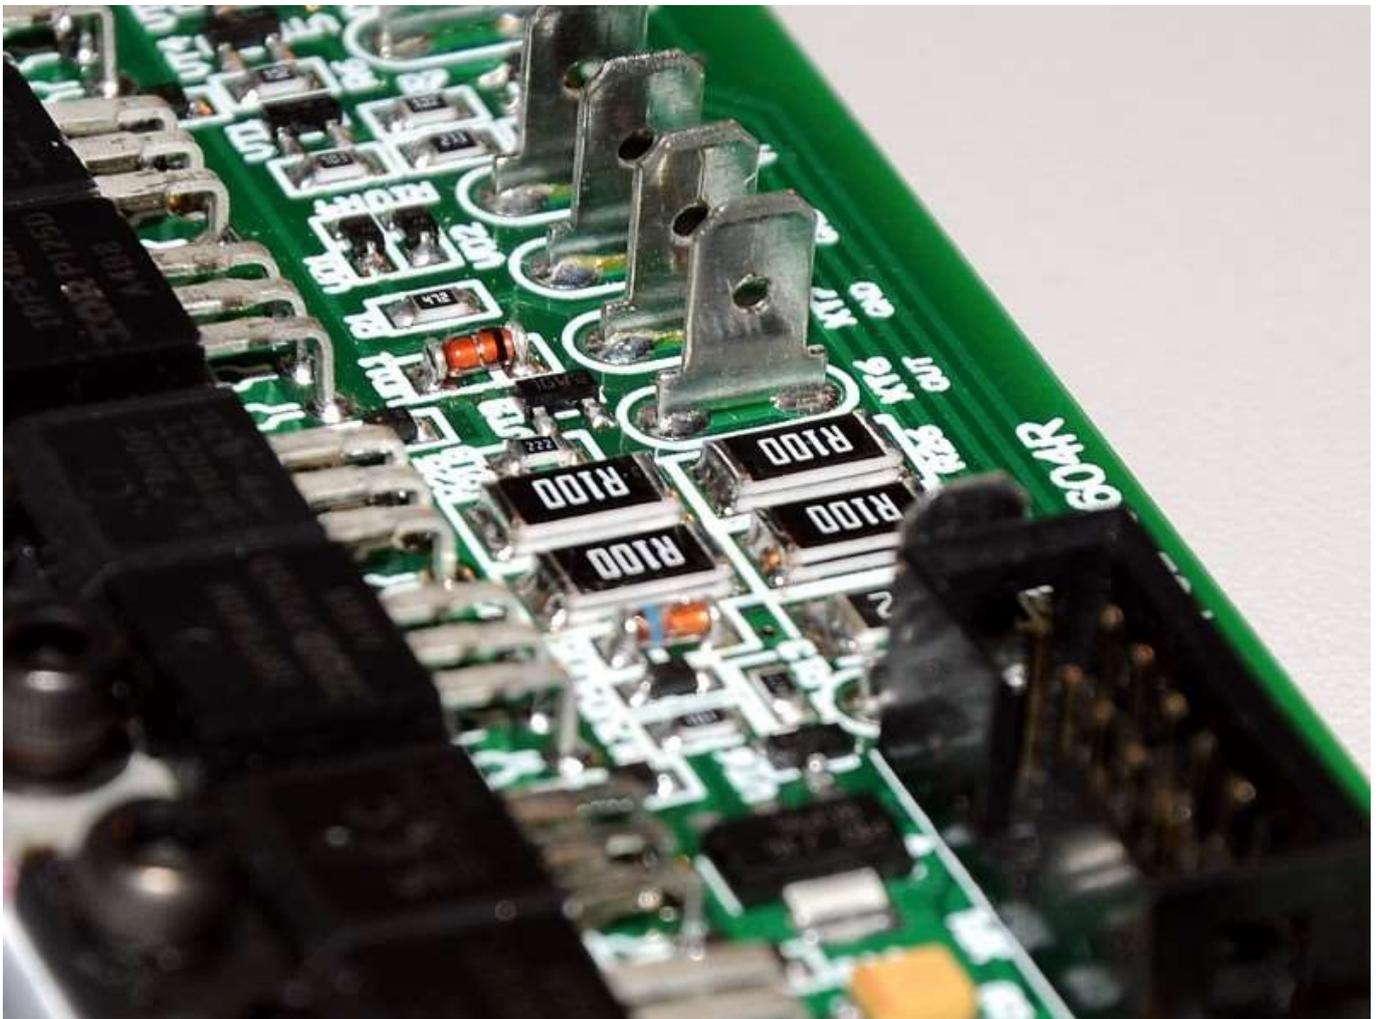

Fig. 9.
14. In parallel with the resistors R25 – R28 on the output stage board, I installed another resistor of the same kind in parallel (Fig. 9). As a result, the scattering power was reduced to an acceptable value.